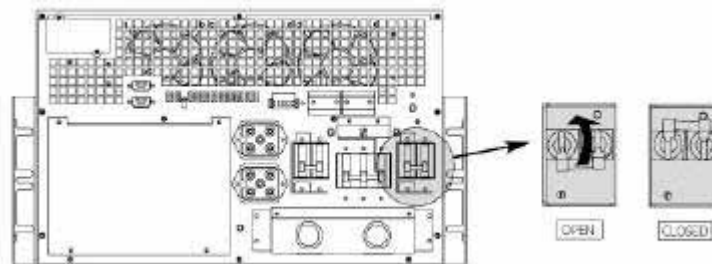

FIG 48 – 10KVA INPUT CIRCUIT BREAKER
5. Switch the INPUT CIRCUIT BREAKER placed on the rear side of the UPS to "ON" position (FIG 48). The GREEN "UTILITY INPUT" LED will be illuminated.